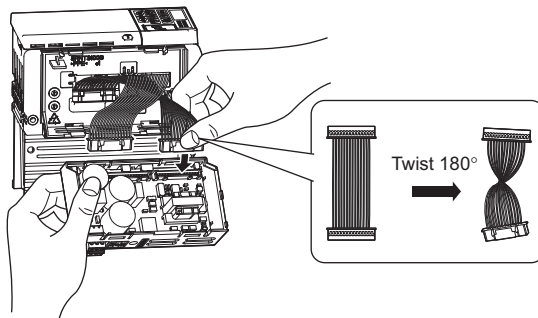

Figure 15 Plugging the Connector into the 24 V Power Supply Unit (PS-V10S)
1. Position the drive on its side or its back as shown in *Figure 15*. Twist the cable with black connector ends 180 degrees.